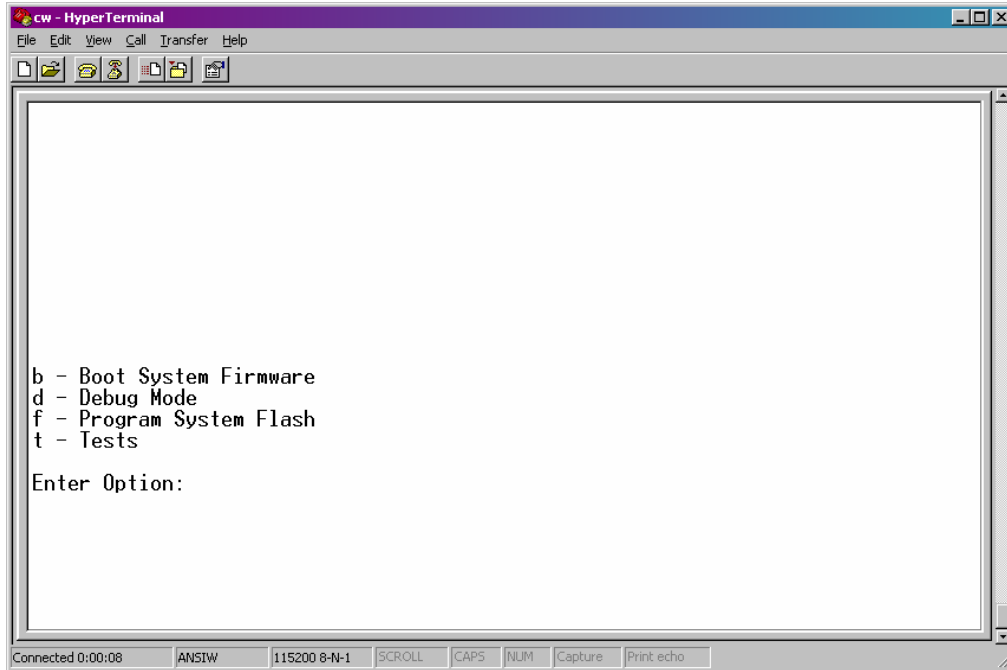

Figure 2-43 - HyperTerminal Recovery Mode Menu
From the HyperTerminal Recovery Mode menu (Figure 2-43), press the 'F' key to enter FLASH download. A message will be displayed warning that the FLASH is about to be erased; press the 'Y' key at the prompt. The screen will display dots as the flash devices are being erased; this could take a few minutes.
5. When the FLASH is ready for download the letter C will be displayed on the screen. In the HyperTerminal command bar click on Transfer and then Send File...(see Figure 2-44). In the Send File Dialog Box (see Figure 2-45), select "1KXmodem" for the protocol, enter the filename of the appropriate .bin file in the format "CWExxxxx.bin" (where xxxxx varies from release to release). Click on the Send button to start the download (see Figure 2-45). When the HyperTerminal Recovery Mode Menu of Figure 2-43 appears, the download has completed.